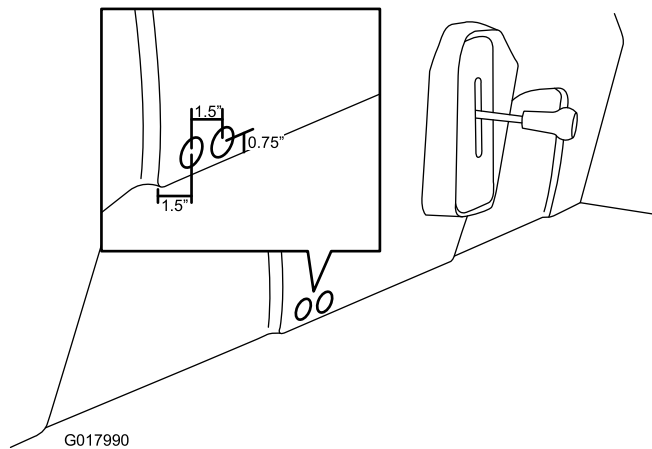

Figure 19
1. Mark and drill 2 holes in the seatbase using a 1 inch hole saw (Figure 19). Make sure to drill through both layers of plastic.